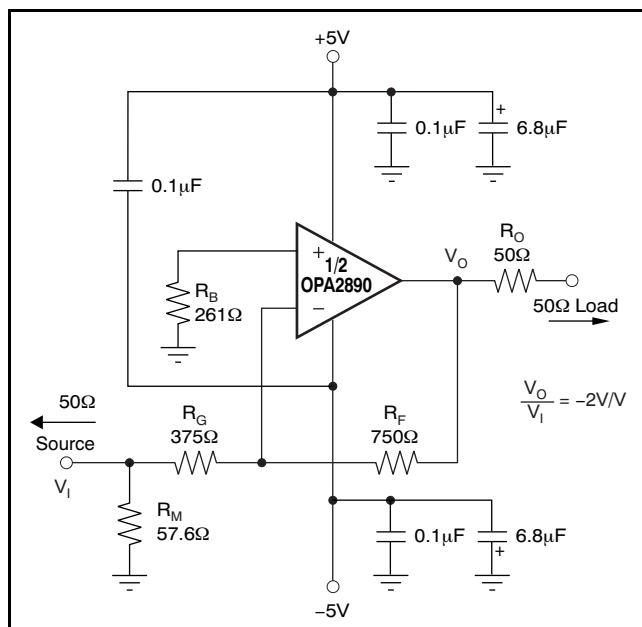

Figure 59. Gain of  $-2V/V$  Example Circuit
The OPA2890 is a general-purpose, wideband, voltage-feedback op amp; therefore, all of the familiar op amp application circuits are available to the designer. Inverting operation is one of the more common requirements and offers several performance benefits. See Figure 59 for a typical inverting configuration where the I/O impedances and signal gain from Figure 49 are retained in an inverting circuit configuration.
The second major consideration, touched on in the previous paragraph, is that the signal source impedance becomes part of the noise gain equation and influences the bandwidth. For the example in Figure 59, the  $R_M$  value combined in parallel with the external 50Ω source impedance yields an effective driving impedance of  $50\Omega \parallel 57.6\Omega = 26.7\Omega$ . This impedance is added in series with  $R_G$  for calculating the noise gain (NG). The resultant NG is 2.86V/V for Figure 59, as opposed to only 2V/V if  $R_M$  could be eliminated as discussed above. Therefore, the bandwidth is slightly lower for the gain of  $-2V/V$  circuit of Figure 59 than for the gain of  $+2V/V$  circuit of Figure 49.
Evaluating these two equations for the OPA2890 circuit and component values (see Figure 49) gives a total output spot noise voltage of 17.5nV/ $\sqrt{\text{Hz}}$  and a total equivalent input spot noise voltage of 8.7nV/ $\sqrt{\text{Hz}}$ . This result includes the noise added by the bias current cancellation resistor (350 $\Omega$ ) on the noninverting input. This total input-referred spot noise voltage is only slightly higher than the 8nV/ $\sqrt{\text{Hz}}$  specification for the op amp voltage noise alone. This result is the case as long as the impedances appearing at each op amp input are limited to the previously recommend maximum value of 400 $\Omega$ . Keeping both ( $R_F \parallel R_G$ ) and the noninverting input source impedance less than 400 $\Omega$  satisfies both noise and frequency response flatness considerations. Because the resistor-induced noise is relatively negligible, additional capacitive decoupling across the bias current cancellation resistor ( $R_B$ ) for the inverting op amp configuration of Figure 59 is not required.